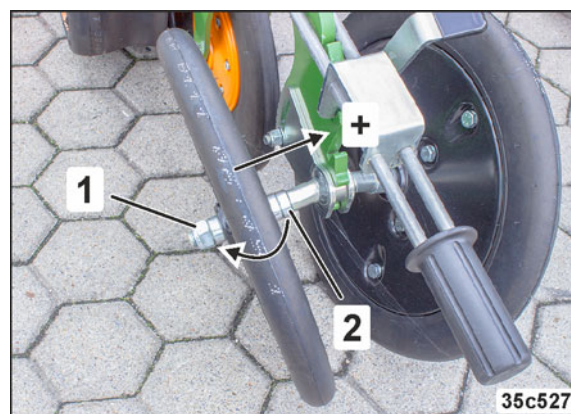

Fig. 180
3. Remove the lock nut (Fig. 180/1)
4. Pull off the press roller and reposition the spacers (Fig. 180/2)